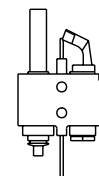

Figure 4.
9. Push the control knob all the way and hold in. Immediately light the pilot with Presslite matchless ignition system by pressing the red igniter button, (located at panel next to the gas valve). Continue to hold the control knob in for about (1) minute after the pilot is lit. Release knob and it will pop back up. Pilot should remain lit. If it goes out, repeat steps 4 through 7.
11. If the pilot, see Figure 4, will not stay lit after several tries, turn the gas control knob to "OFF" and call your service technician or gas supplier.